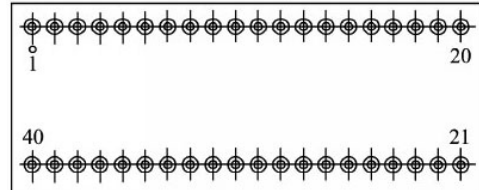

Fig.4 Schematic diagram of pin (bottom view)
7. Pin designation (fig.4, Table 3)